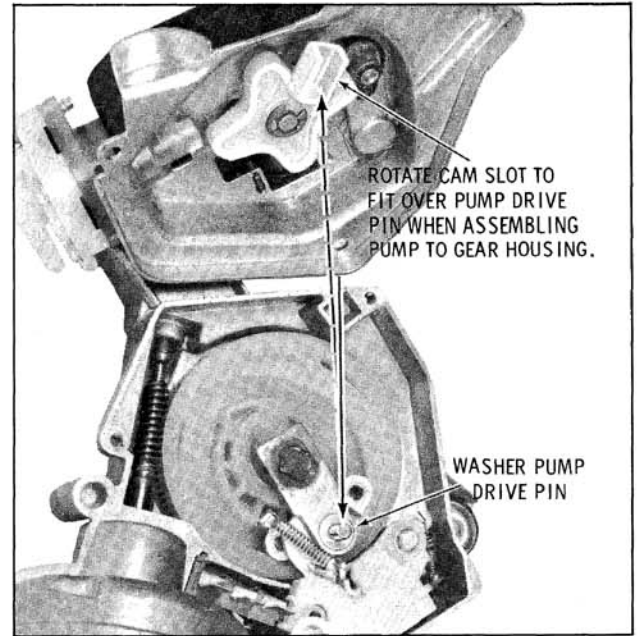

Fig. 13-187 Positioning Pump to Gear
6. Assemble gear box cover and/or washer pump to wiper being careful that the ground strap is properly connected. Refer to Fig. 13-187 for assembly of washer pump to gear housing.
9. Reassemble washer pump to wiper. (Fig. 13-187)